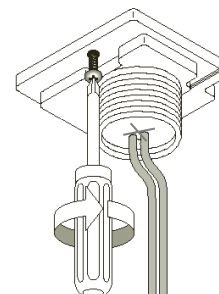

Fig.5
13. Reinstall the Quick Cable Connection. (Fig. 5)